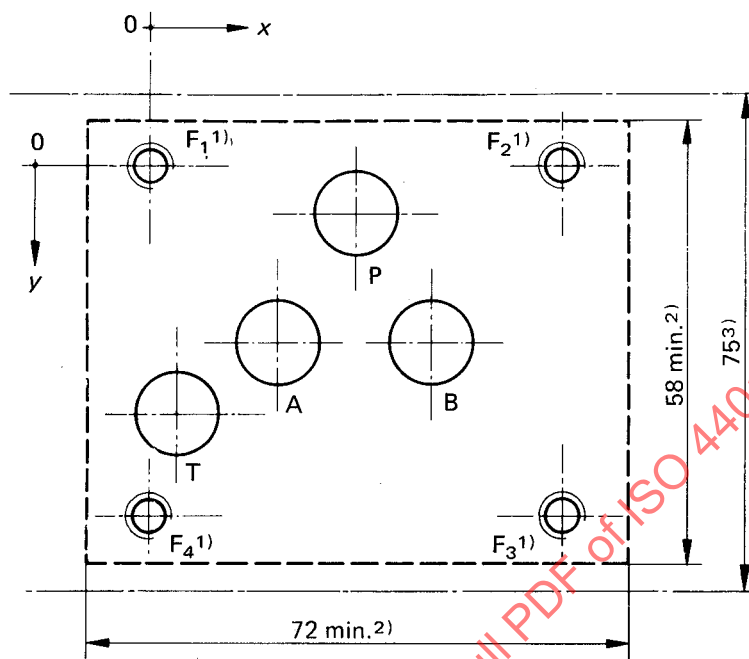

Figure 3 — Mounting surface for four-port hydraulic directional control valves with 11,2 mm maximum port diameter
**6.3** Mounting surface with 11,2 mm maximum port diameter (ISO 4401-AC-05-4-A)\*, see figure 3, table 3.